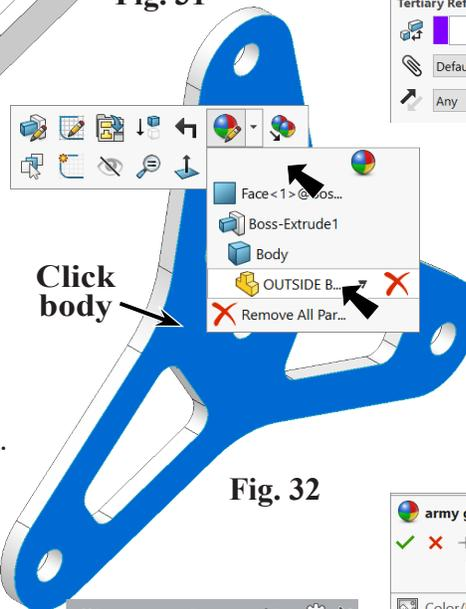

Fig. 32
Step 1. Click part, click **Appearance Callout**  on the context toolbar and click **OUTSIDE BRACKET** , Fig. 32.